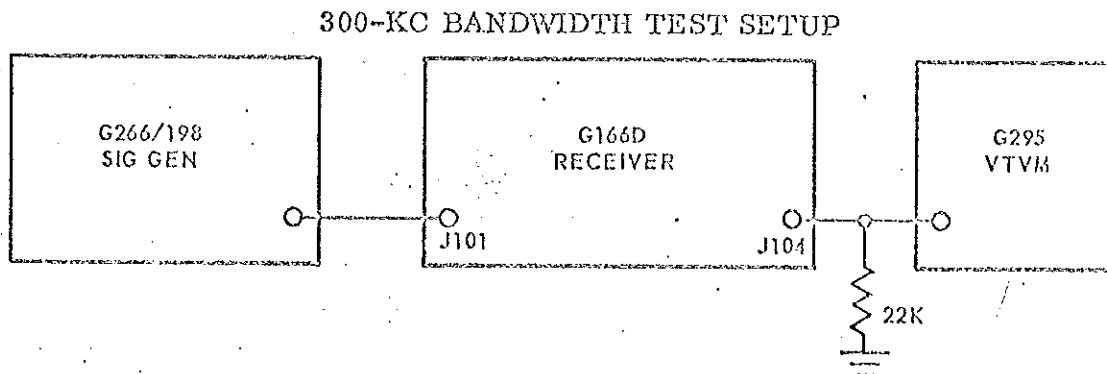

Figure 5-6
- a. Connect test equipment as shown in figure 5-6.